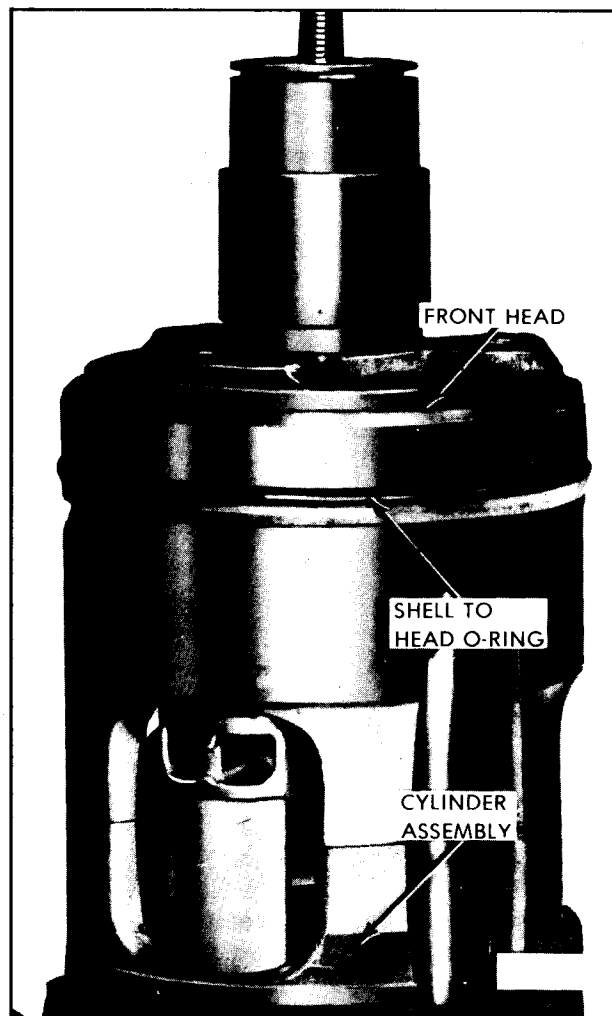

Figure 135—Shell-to-Front Head Installations
21. Using the 525 oil, lubricate new head-to-shell O-ring and install on rear discharge valve plate, in contact with shell (figure 135).